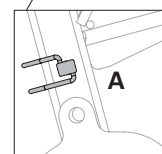

Fig. A14.13a
4. Fit the linch pin (27.7) in position A. (Fig. A14.13a)
1. Remove the linch pin (27.7) from Position B. (Fig. A14.13a)